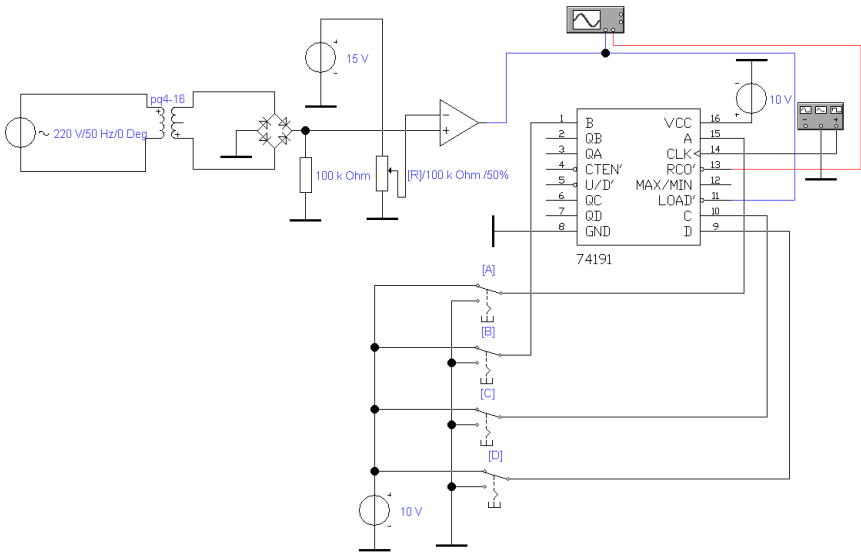

Figure 13.2 – Digital control circuitry of the power regulator
4. Add the previous diagram (fig. 13.1) to the elements of the controlled digital delay as shown in fig. 13.2.